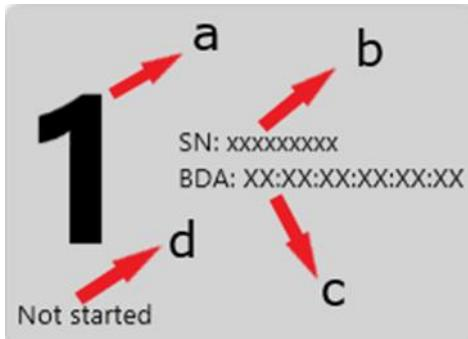

Figure 102. Single DUT tile
- d – Current operation executing (only while tests are running), see Figure 102. If any of the DUTs fails, the current command field indicates the failed test command.